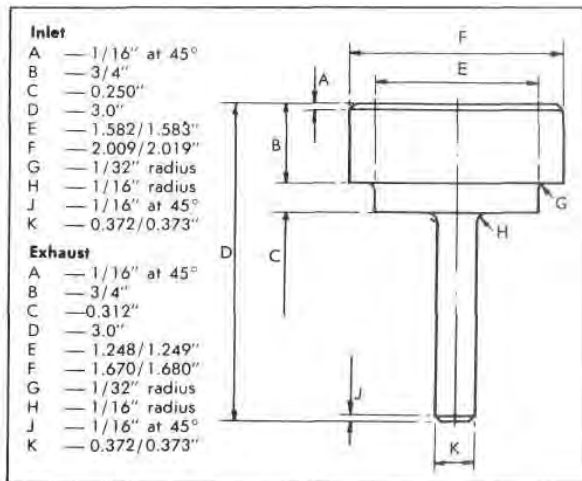

Fig. B17 — Press Tool for Valve Seat Inserts
2. Remove all machining swarf and clean the insert recess. Using the valve bore as a pilot, press the insert home using the inserting tool (Fig. B17).